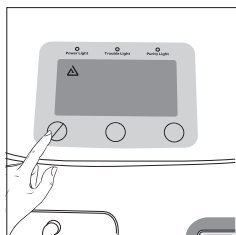

Figure 6
5. Press ON/OFF button. The device is now turned on. You can begin breathing from the device immediately even though it typically takes minutes to reach oxygen purity specifications. (Figure 6)